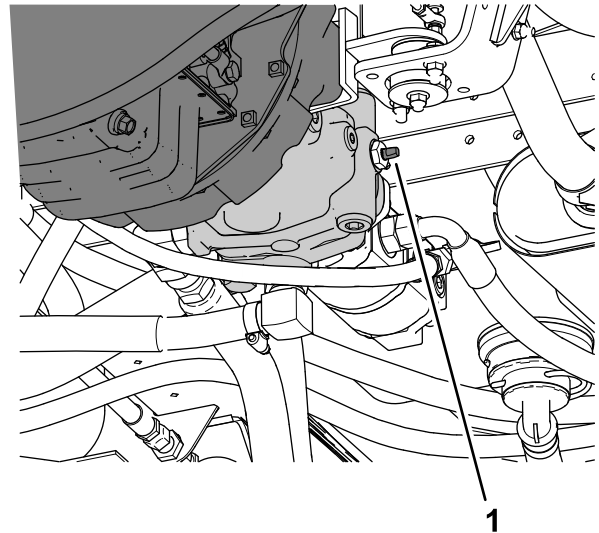

Figure 52
3. Rotate the tow valve (Figure 52) 90° in either direction to open the tow valve.